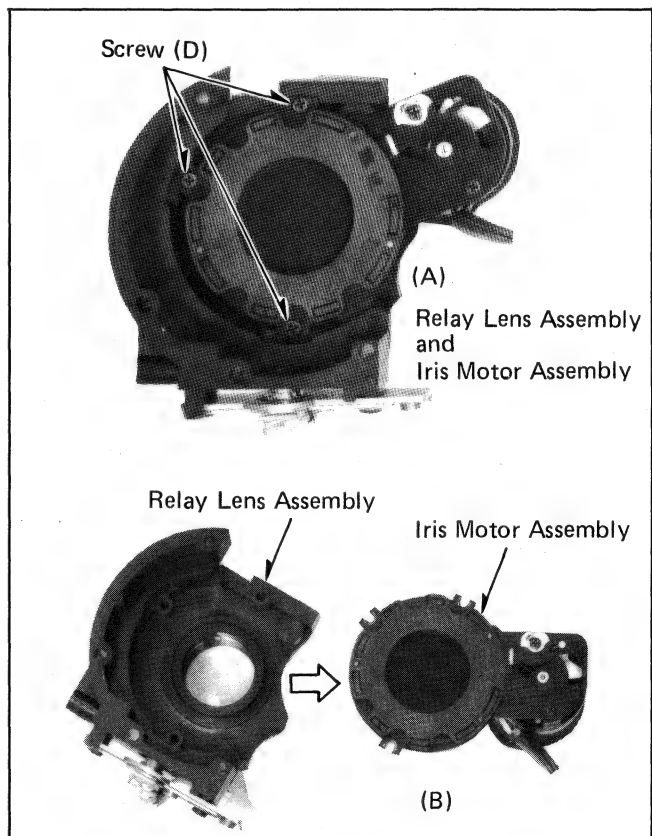

Fig. 25
- 10-4. Unscrew 3 screws (E) and remove the iris motor assembly (see Fig. 25).